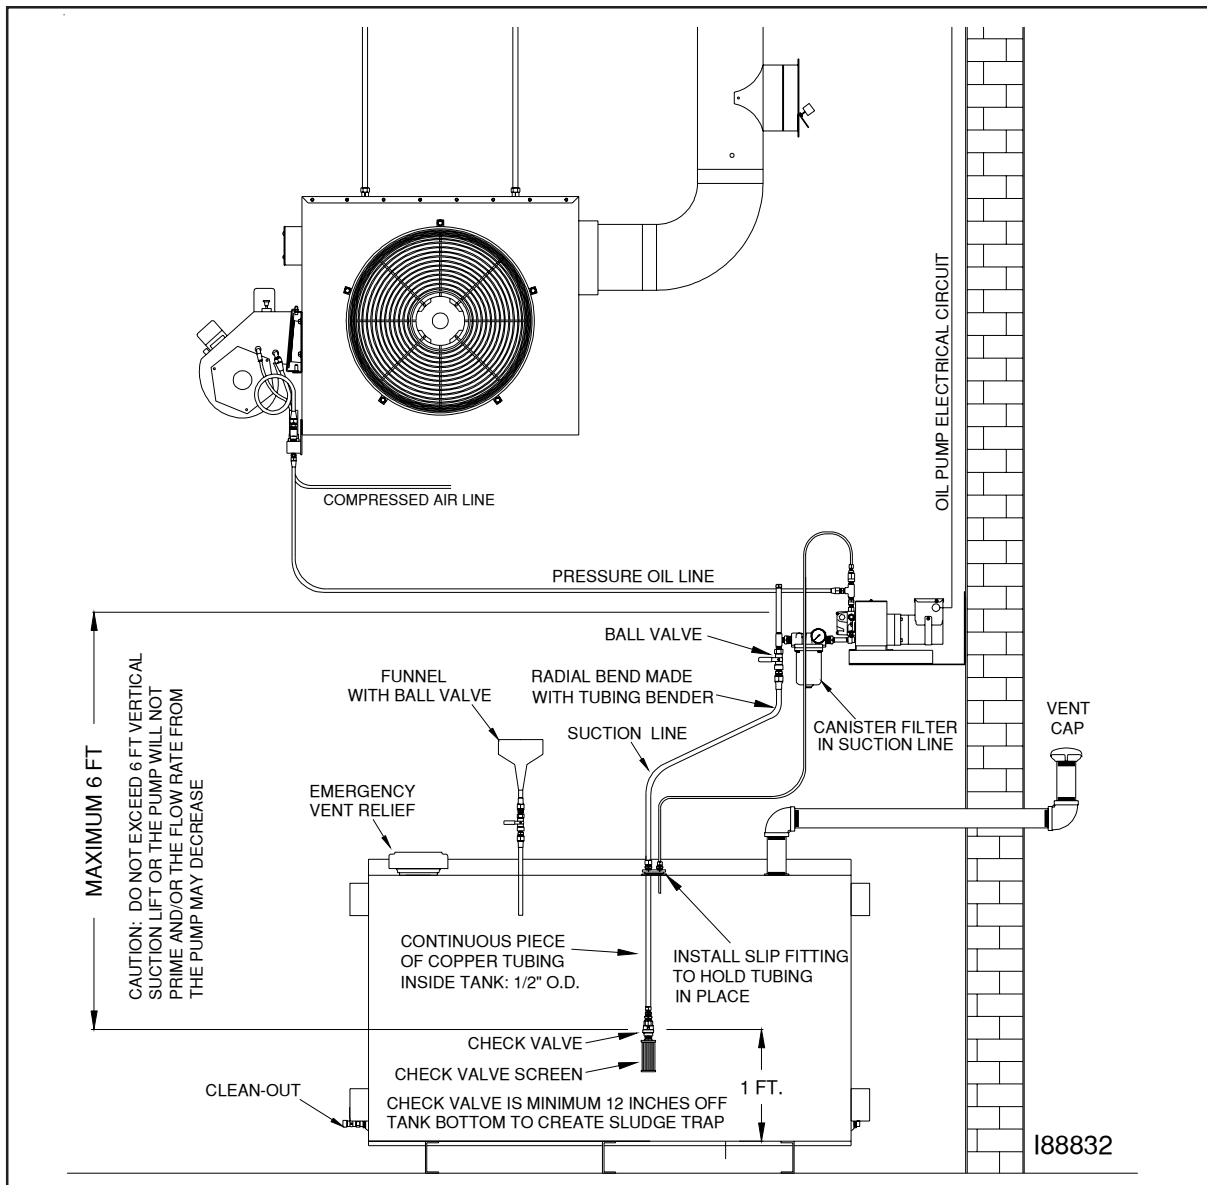

Figure 4J - Oil Line Installation Overview
- u. Install a vent from the tank to the outside of the building according to code. The tank must be properly vented to allow air to enter the tank as oil is pumped out and to safely vent fumes to the outside. See Figure 4J.
4. Install 1/4" O.D. copper tubing (user-supplied) from the pressure relief back to the oil tank. Refer to Figure 4J as needed.